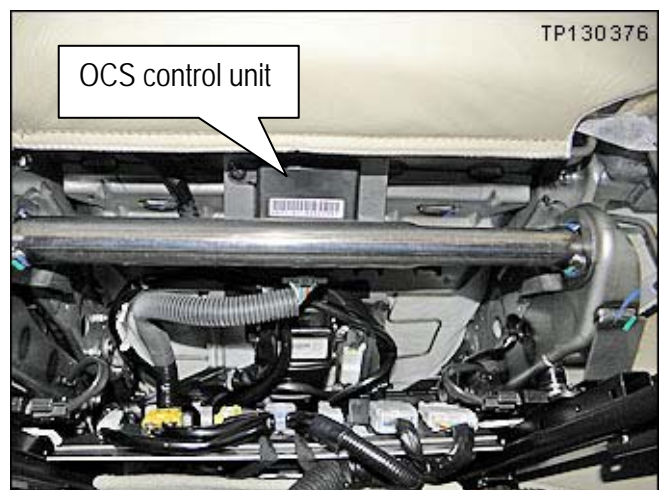

Figure 2
3. Replace the OCS control unit with the one listed in the Parts Information (see Figure 2).